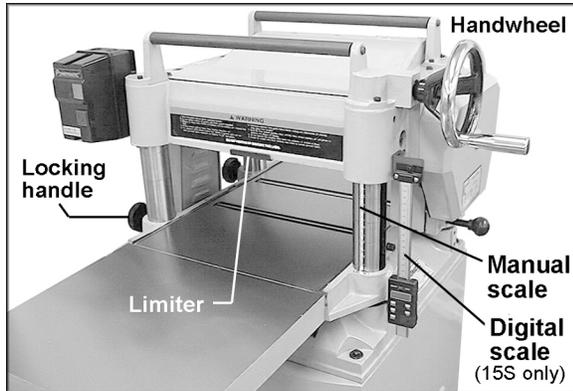
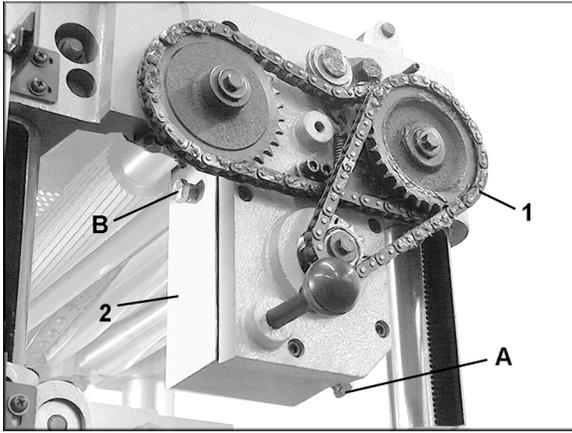

Figure 33
Figure 34
The cutting depth scale is a combination inch/metric scale (Figure 33), with a cutting range from 0 to 6" (152.4mm). A manual scale is mounted directly to the front column. The model 15S Planer also features a digital scale for easier, more precise depth readings.
The distance of upward or downward movement is controlled by the handwheel (Figure 33). Before moving the table up or down, loosen the locking handles (Figure 33). After obtaining proper table position, tighten the locking handles.
Maximum depth of cut is 3/16". A limiter (Figure 33) on the front of the head casting limits the depth of cut on full width planing under 1/8".
1. Remove the drain plug (A, Figure 34) with a 14mm wrench, and remove filler cap (B-Figure 33). Drain dirty oil thoroughly.
2. Insert and tighten the drain plug (A, Figure 34).
3. Fill with clean lubricant through hole (B, Figure 34).
4. Install and tighten filler cap (B, Figure 34).